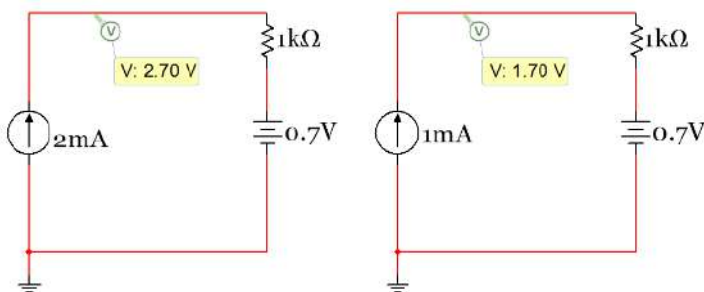
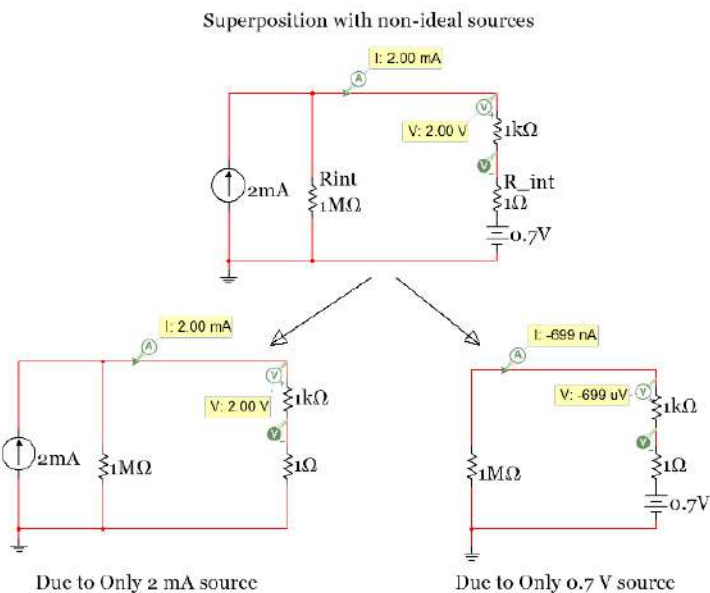
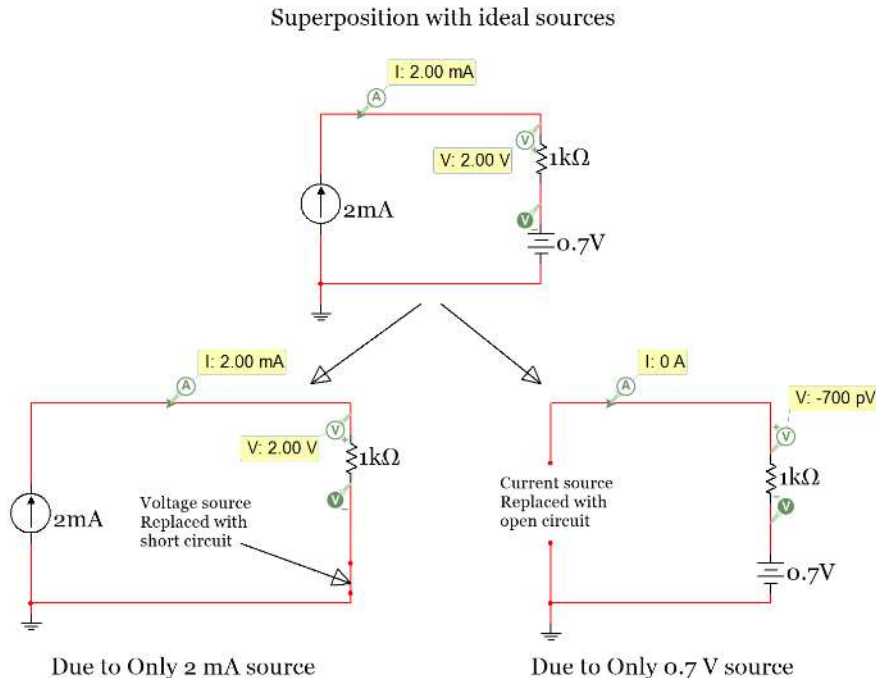

Figure 2.32: Example of a linear system - Circuit with a resistor and a diode that is replaced with a battery.
Figure 2.33: Example of Superposition with Non-Ideal Sources - The 0.7V battery has a negligible effect
Figure 2.34: Example of Superposition with Ideal Sources
using Newton's 2nd Law all of the forces acting on the mechanical body result in the body having a net acceleration. If the system is linear then superposition can be used where the acceleration due to each individual force is calculated one at a time. All of the individual accelerations could then be added together and the resulting total acceleration that results would be the same as solving the system all in one step with all forces in the same calculation. This same process can also be used for independent sources in electrical linear systems. The only thing that complicates the superposition procedure for linear circuits is what to do with the "other sources" that are physically connected to the circuit as you solve the circuit one source at a time. If the sources are **not ideal** then the "other sources" are replaced with their internal resistance. Recall in Figure 1.3 of Module 1 that a non-ideal voltage source is modeled as a battery in series with a small resistor. This small resistor (called R_{int}) is the internal resistance. A non-ideal current source is modeled as a large resistor in parallel with the current source. If the sources of the circuit in Figure 2.32 are replaced with a non-ideal current source with internal resistance of $1\text{ M}\Omega$ for the current source and $1\ \Omega$ in series to transform the ideal voltage source to a non-ideal voltage source, the results are shown in the top circuit in Figure 2.33. The voltage across the $1\text{ k}\Omega$ resistor is approximately 2 V , which is the same value as obtained in the circuit in Figure 2.32 with ideal sources. The value is approximately the same because the values of R_{int} in this case for the current and voltage sources have minimal effect on the circuit.
For sub-problem 1 (on the left side of Figure 2.33) the voltage source must be "zeroed out" and for sub-problem 2 (on the right side of Figure 2.33) the current source must be "zeroed out" so that only the internal resistance remains for both. To zero out an independent source the following is done:
The **magnitude** of the voltage and current of the 1 kΩ resistor in the bottom-left circuit in Figure 2.33 due to only the 2 mA current source (sub-problem 1) can be calculated as follows:
- $I_{1k\Omega_1} = \mathbf{2\text{ mA}}$ because the source forces 2mA through the loop (verified by Multisim in Figure 2.33).
- $V_{1k\Omega_1} = I_{1k\Omega_1} \cdot 1\text{ k}\Omega = 2\text{ mA} \cdot 1\text{ k}\Omega = \mathbf{2\text{ V}}$ (as verified by Multisim in Figure 2.33).
In this example the 0.7 V has very little effect on current or voltage through the 1 kΩ resistor since there is a 1 MΩ resistance in the circuit. The **magnitude** of the voltage and current of the 1 kΩ resistor in the bottom-right circuit in Figure 2.33 Due to only the 0.7 V voltage source (sub-problem 2) can be calculated as follows:
- $I_{1k\Omega_2} = (0.7\text{ V}) / (1\text{ M}\Omega + 1\text{ k}\Omega + 1\text{ }\Omega) = 6.99\text{E-}7\text{ A}$ or **699 nA** (as verified by Multisim in Figure 2.33).
- $V_{1k\Omega_2} = I_{1k\Omega_2} \cdot 1\text{ k}\Omega = 699\text{ nA} \cdot 1\text{ k}\Omega = 6.99\text{ E-}4$ or **699 μV** (as verified by Multisim in Figure 2.33).
- $I_{1k\Omega} = I_{1k\Omega_1} + I_{1k\Omega_2} = 2\text{ mA} - 699\text{ nA} = \mathbf{1.9993\text{ mA}}$ (rounded to 2 mA in Multisim, top circuit in Fig 2.33)
- $V_{1k\Omega} = V_{1k\Omega_1} + V_{1k\Omega_2} = 2\text{ V} - 699\text{ }\mu\text{V} = \mathbf{1.9993\text{ V}}$ (rounded to 2 V in Multisim, top circuit in Fig 2.33)
In this course we will only deal with ideal independent sources so the internal resistance doesn't have to be included. For ideal voltage sources the internal resistance is zero (replace R_{int} in Figure 2.33 with a short circuit) and for ideal current sources the internal resistance is infinity (replace R_{int} in Figure 2.33 with an open circuit). If the sources in the circuit in Figure 2.33 are **ideal** then Figure 2.34 shows how the circuit would look and how the circuits for the 2 sub-problems would look.
- $I_{1k\Omega} = I_{1k\Omega_1} + I_{1k\Omega_2} = 2 \text{ mA} - 0 \text{ A} = \mathbf{2.0 \text{ mA}}$ (Matches top circuit in Fig 2.34)
- $V_{1k\Omega} = V_{1k\Omega_1} + V_{1k\Omega_2} = 2 \text{ V} - 0 \text{ V} = \mathbf{2.0 \text{ V}}$ (Matches top circuit in Fig 2.34)